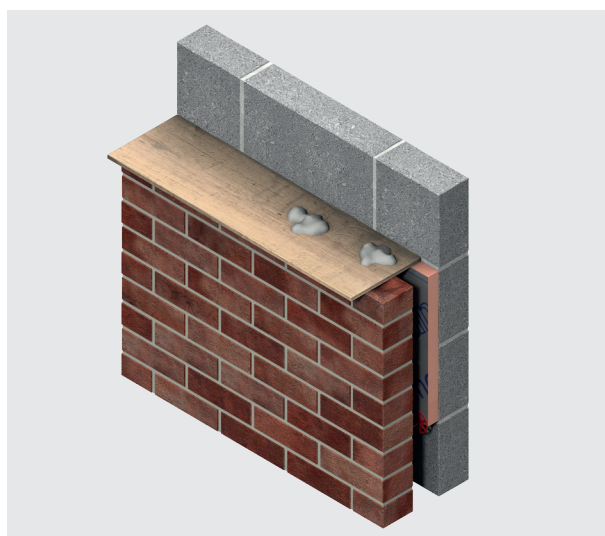

Figure 7: Use of a cavity board to protect the cavity and insulation board top edge
- Use of a cavity batten or cavity board is recommended to protect board edges and maintain a clear cavity (see Figures 7 & 8 or refer to BBA Certificate 16/5299).